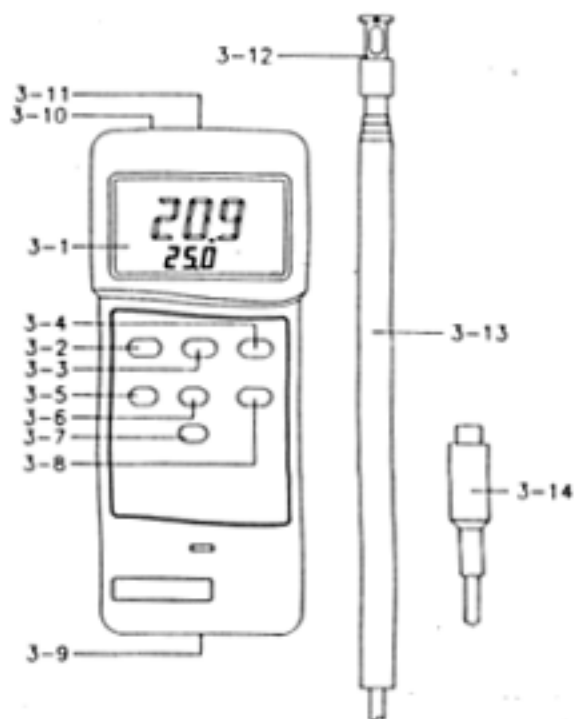
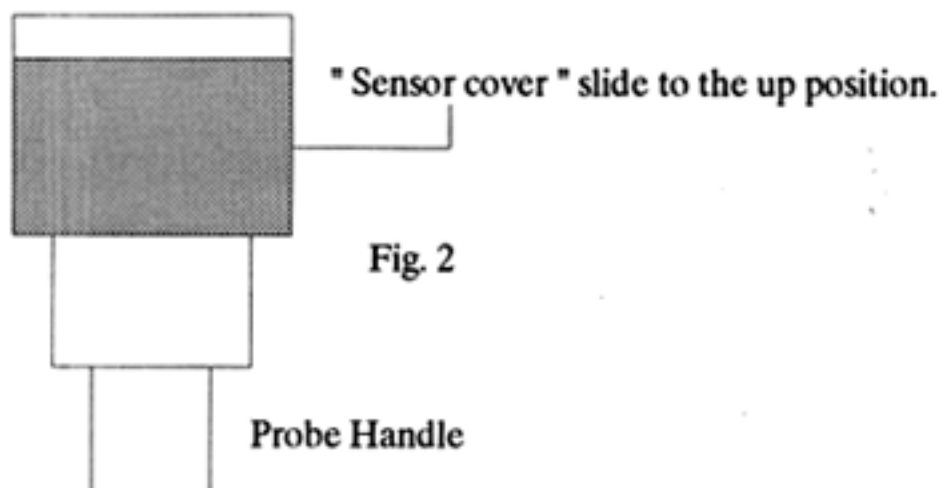

Fig. 1
Fig. 2
- 1) Connect the " Probe's Plug " (3-14, Fig. 1) to the " Probe Input Socket " (3-11, Fig.1).
- 2) Power on the meter by push the " Power On/Off Button " (3-2, Fig.1) once a while.
Each time before POWER ON, it should slide the sensor cover (3-12, Fig. 1) to the up position to let the air velocity sensor isolated from the environment, refer Fig. 2.
- 3) Select the desired temperature units, using the " °C/°F Button " (3-4, Fig. 1).
- 4) Select the desired air velocity units, m/s, km/h, ft/min, knots, mile/h, using the " Unit Button " (3-8, Fig. 1).
- a. On the " Sensing Head " (3-12, Fig. 1), slide the sensor cover to the up position to let the air velocity sensor isolated from the environment, refer Fig. 2.
- b. Push the " Zero Button " (3-7, Fig. 1) to let the reading value of air velocity show zero value.
- a. During measurement, pushing the " Data Hold Button " (3-3, Fig. 1) will hold the display values & the LCD will show the " D.H " symbol.
- a. The Data Record function displays the maximum & minimum readings. To start the Data Record function, press the " Record Button " (3-5, Fig. 1) once. " REC " symbol will appear on the LCD display.
- * Push the " CALL Button " (3-6, Fig. 1) once, then the " Max " symbol with the maximum values recorded will appear on the LCD display.
- * To de-activate the Data Record function, Press the " Record Button " (3-5, Fig. 1) once again. All associated annunciators will disappear from the display.
(9) For quick measurement, follow the procedures shown below :
The instrument features an RS232 output via 3.5 mm " RS232 Output Socket " (3-10, Fig. 1).
- 2) Slide the " Battery Cover " (3-9, Fig. 1) away from the instrument and remove the battery.